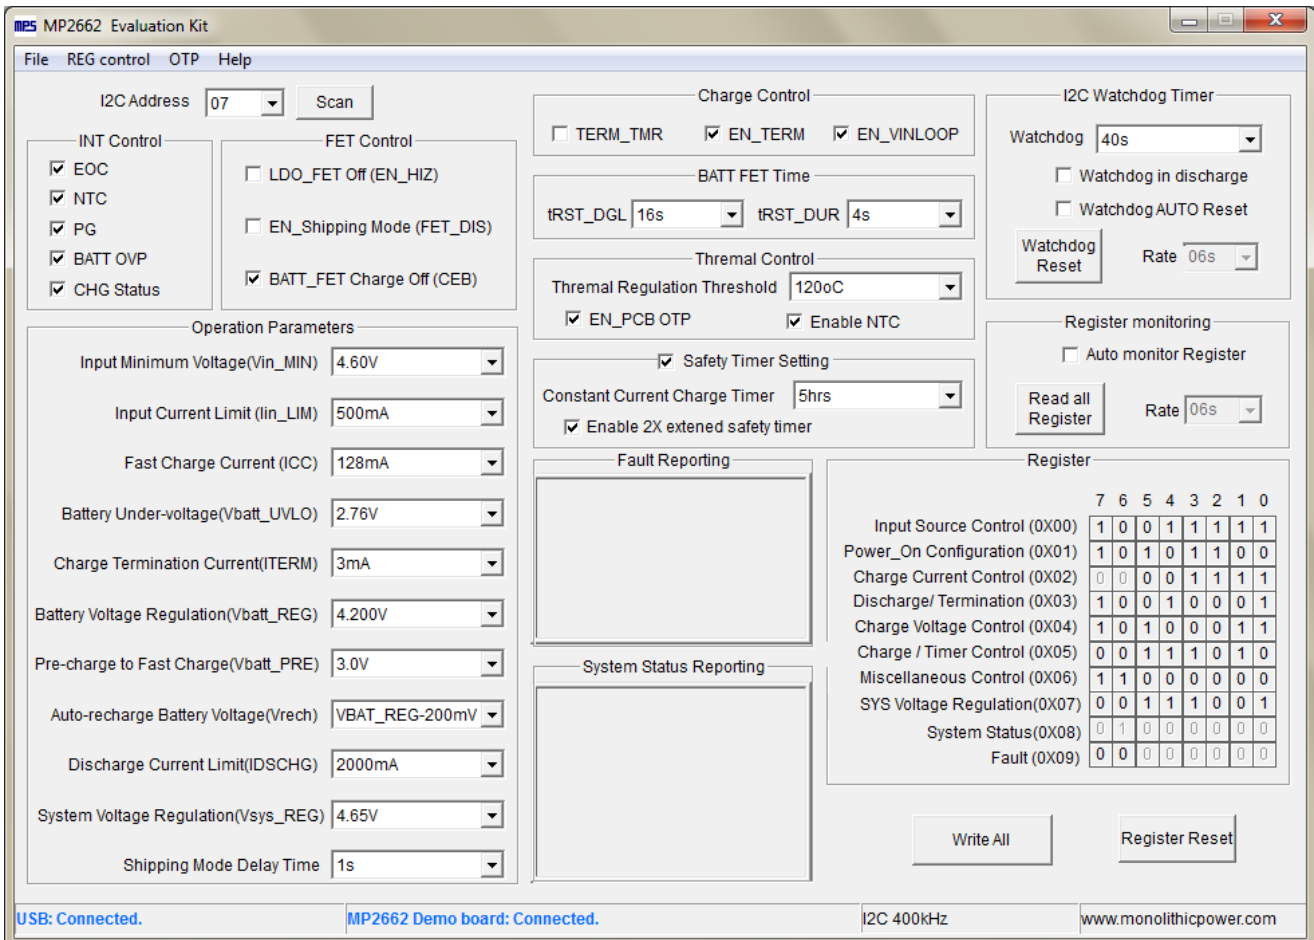

Figure 7: MP2662 evaluation interface
5) Turn on the computer. Launch the MP2662 evaluation software. The main window of the software is shown in Figure 7.